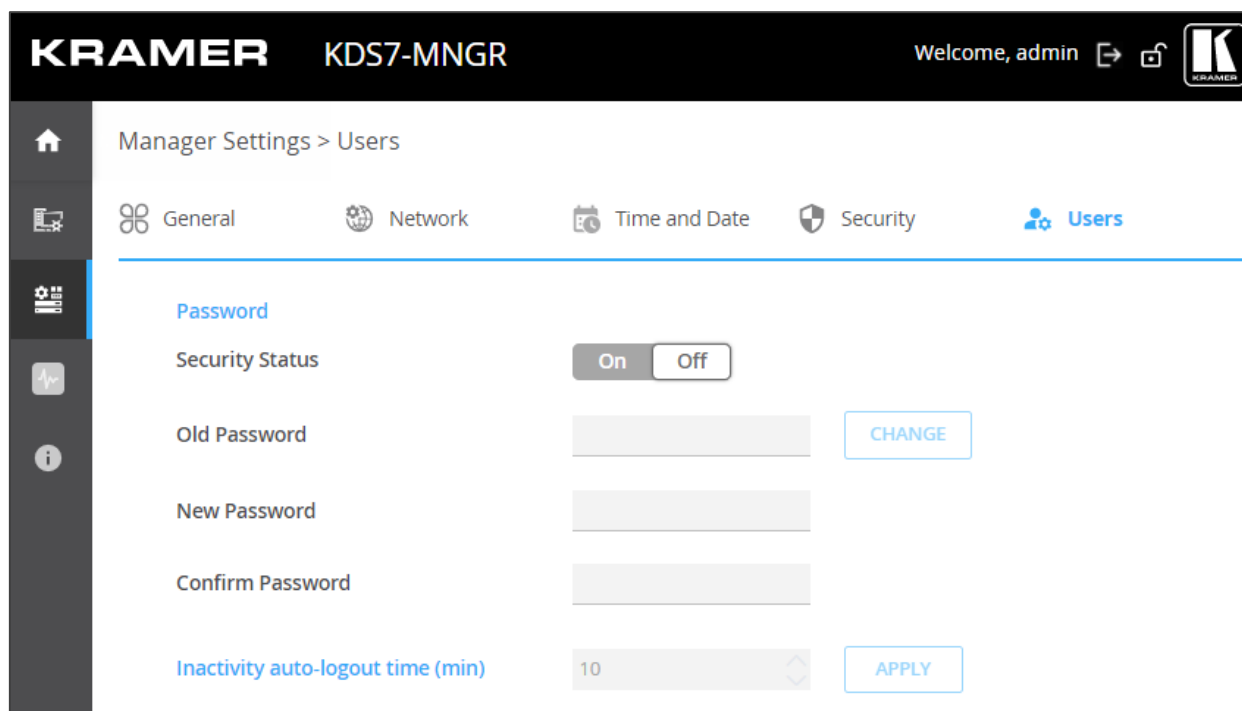

Figure 58: Device Settings – Users Tab
2. Select Users tab (see Figure 58).
- 2. Select Users tab (see Figure 58).